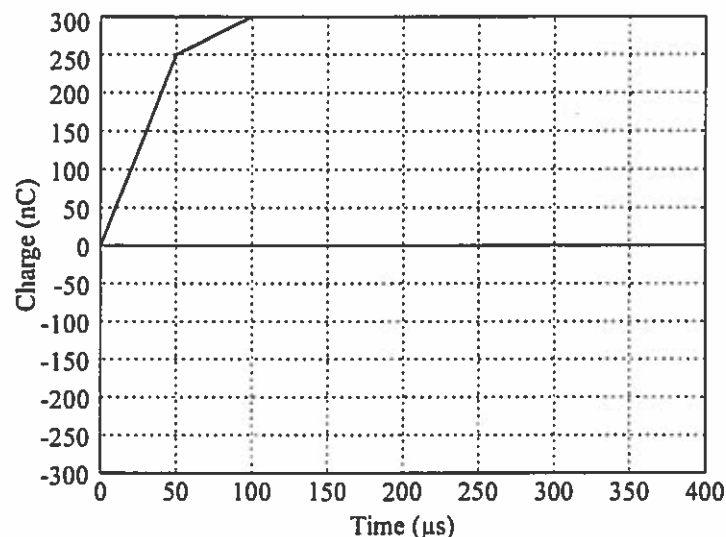

Figure 2.1
- Given the stimulus is a current-mode, charge-balanced, asymmetric biphasic waveform with the timing of the different phases being 2:1:4:1 (cathodic:interphasic:anodic:shorting), sketch and complete the charge delivery profile shown in Figure 2.1 (this shows the profile for only the first 100 $\mu$ s). Annotate the different phases. [4]